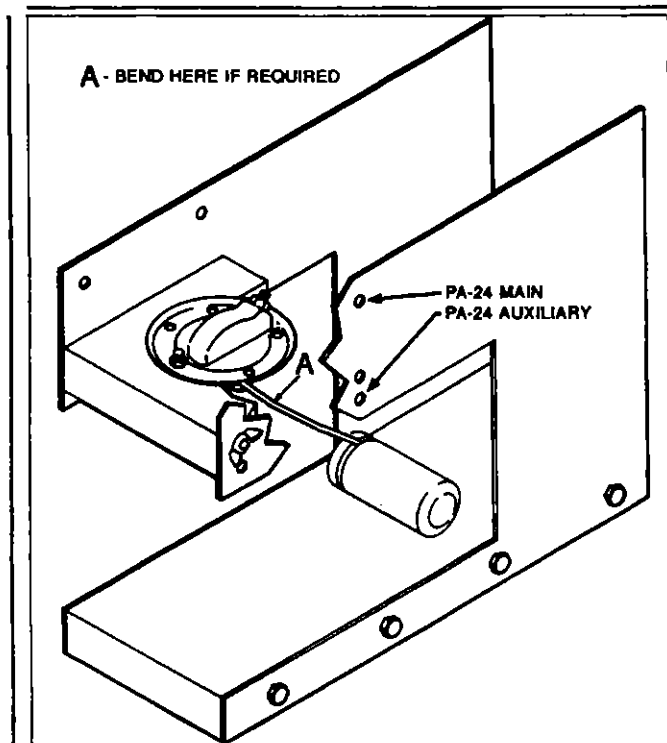

Figure 8-9. Checking Sender Unit
2. Secure the sender in the appropriate position on the fabricated jig as shown in Figure 8-9. (The jig may be fabricated from dimensions given in Figure 8-19.)
3. With the float arm against the bottom stop, the float should be just touching the base of the jig. If the float arm is not touching the base of the jig or the bottom stop, adjust the float by bending the arm at a position shown in Figure 8-9.